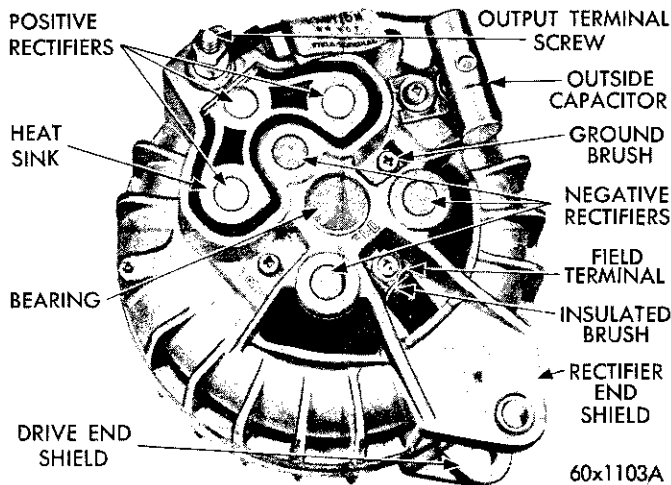

Fig. 19—Alternator Assembly
six (6) silicon (diode) rectifiers are used (Figs. 19 and 20). Three of the rectifiers have positive polarity cases, and are pressed into an insulated die cast aluminum holder called a "heat sink." The heat sink is electrically insulated and is large enough to absorb the heat from the positive case rectifiers. The heat sink contains the "output" "BAT" terminal. Three of the rectifiers have "negative" polarity cases, and